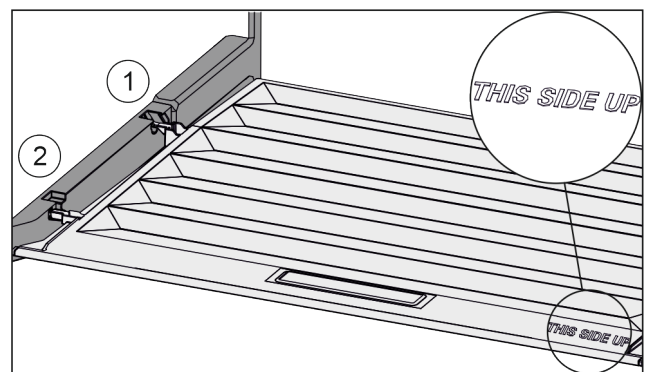

Fig. 109
- ▶ Insert the lip of the cover over the opening of the rear bracket Fig. 109 (1) and click into place Fig. 109 (2).